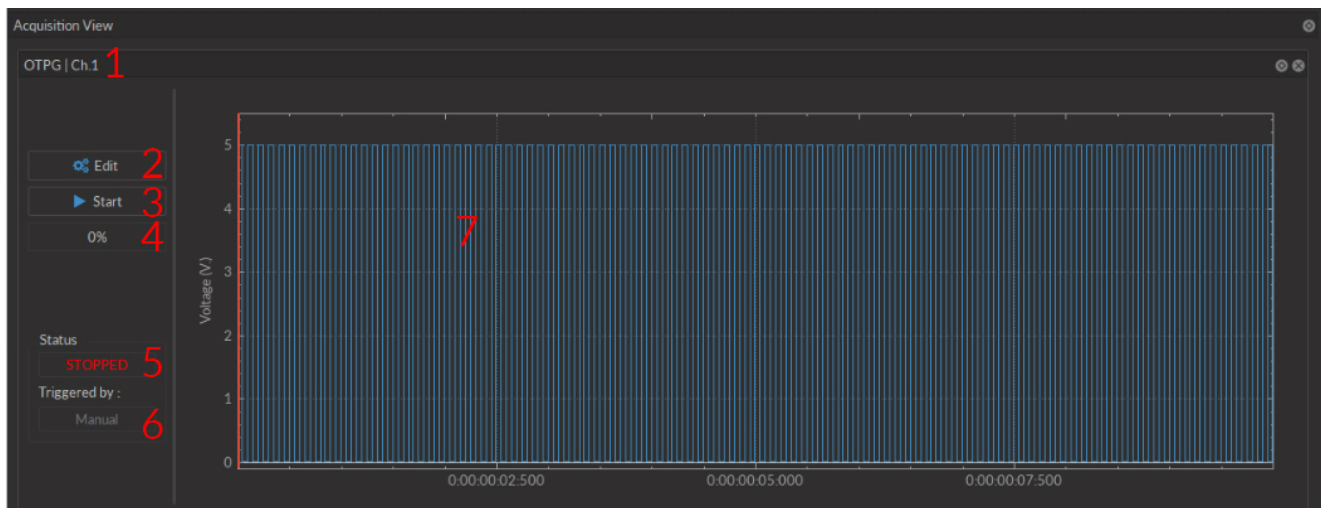
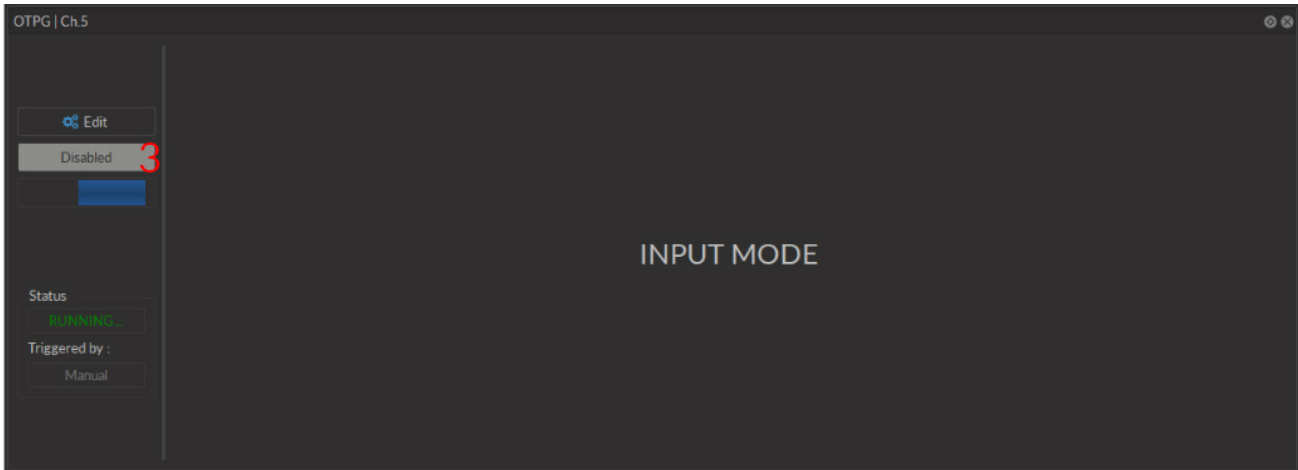
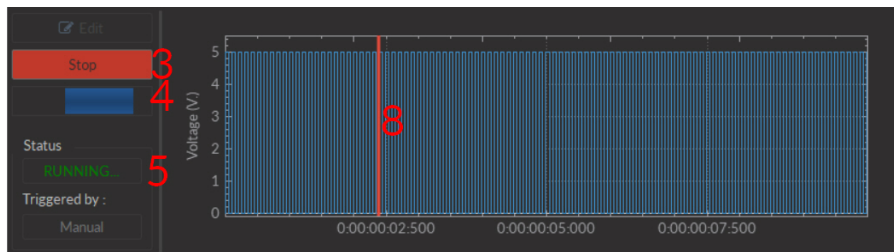

Figure 3.68: Acquisition View Box
Figure 3.69: Acquisition View Box, Input Mode
Figure 3.70: Acquisition View Box, Square Mode
1. The **Channel name** is located on the upper left of the **Channel box** (Fig. 3.68), identifying the type of channel and its number, corresponding to that on the OTPG.
- The **Edit** button (Fig. 3.68) allows the editing of channel parameters, opening the **Channel configuration** window. For further information, see section 3.6.1.
- The **Start** button (Fig. 3.68) activates the chosen channel without activating any other channel. The button is **Green** (Fig. 3.68 when inactive, **Red** (Fig. 3.70) when active and **Gray** (Fig. 3.69) when disabled.
- The **Progress Bar** (Fig. 3.68) will indicate the progress of the chosen sequence. Should the sequence be infinite, a scrolling blue bar (Fig. 3.70) is displayed.
- The **Status** box (Fig. 3.68) shows whether the channel is active, displaying **STOPPED** when inactive (Fig. 3.68) and **RUNNING...** (Fig. 3.70) when active.
- The **Triggered By** box (Fig. 3.68) shows the current trigger source of the channel sequence.
- The **Sequence Preview** box (Fig. 3.68) shows a graphed preview of the pulse sequence.
- The **Position Marker** (Fig. 3.69) is a red line on the **Sequence Preview** that indicates the position in time when the sequence is active.